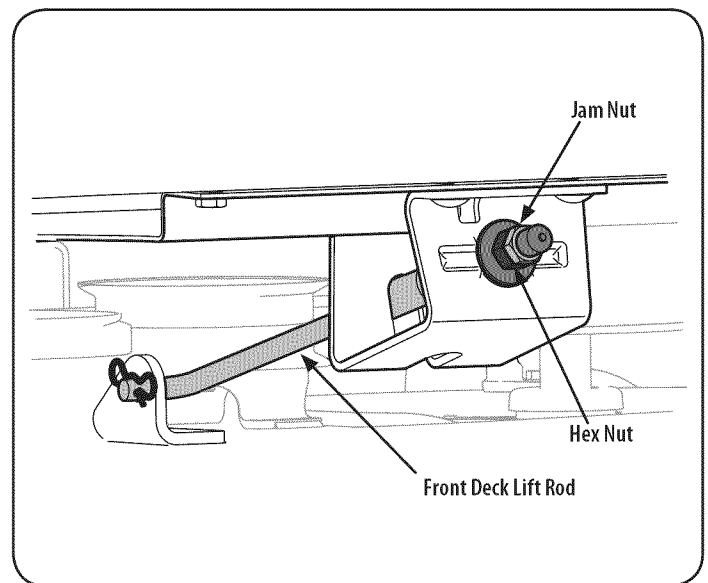

Figure 28
5. Using a wrench, loosen the jam nut first, then raise or lower the front of deck by turning hex nut on the front deck lift rod. See Figure 28.